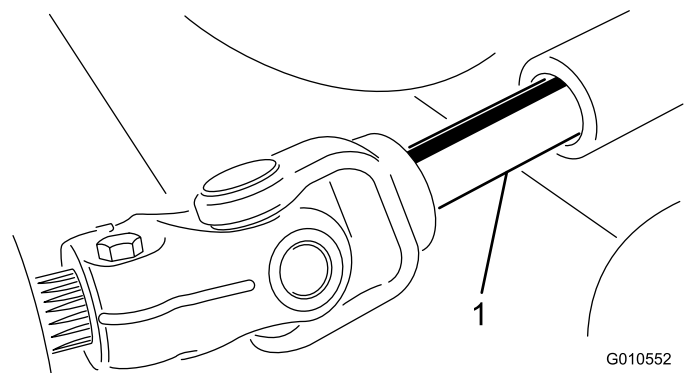

Figure 26
3. Slide the male PTO shaft into the female PTO shaft (Figure 26).